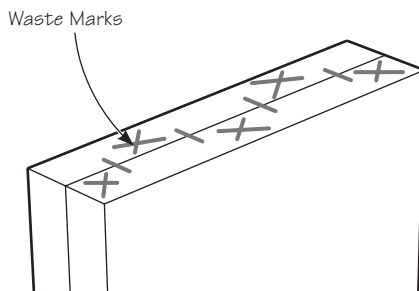

Figure 6: Mark waste areas.
4. Mark the waste areas on each board (see **Figure 6**).